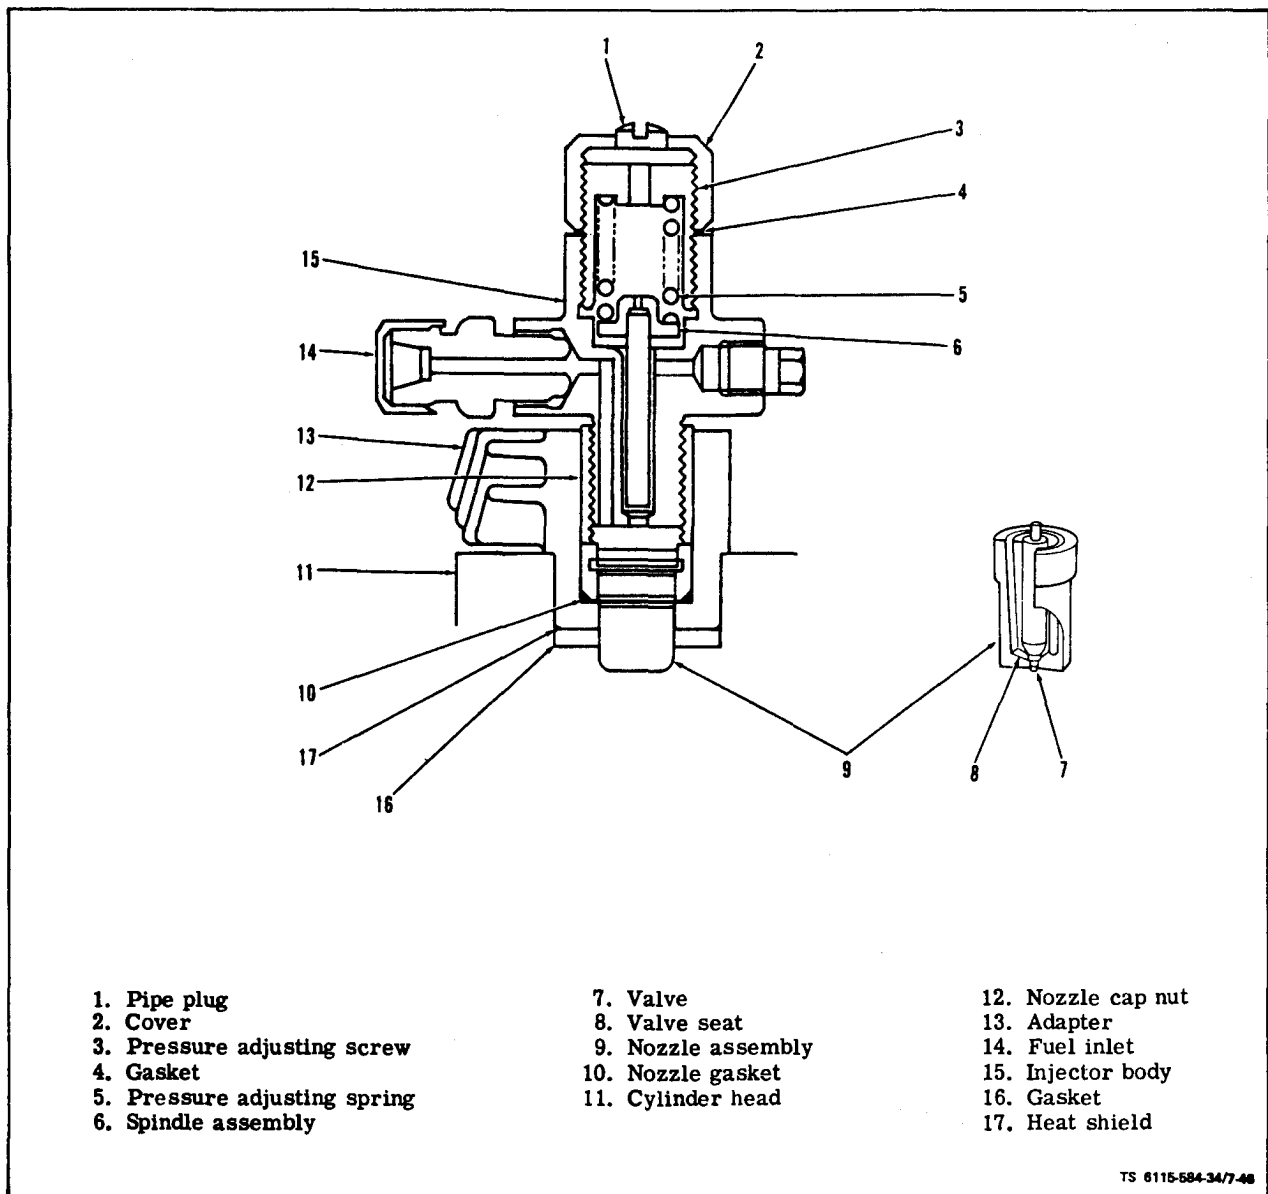

Figure 7-46. Fuel Injector
(1) Remove pipe plug (1, figure 7-46).
(2) Loosen (do not remove) cover (2).
(3) Install injector nozzle on a static fuel nozzle testing fixture.
(4) Insert a 5/32 inch hex socket key through hole in cover (2).
(5) Adjust opening pressure with hex key to correct pressure (1750 psi for a used injector, 1950 psi for a new injector).
(6) Tighten cover (2), and recheck opening pressure.
(1) Secure injector in a holding fixture and remove nozzle cap nut (12, figure 7-46) and nozzle (9).
(1) Rinse valve (7, figure 7-46) and nozzle (9) thoroughly in clean fuel oil before assembly. Valve must be free in the nozzle. Lift valve (7) about one-third out of nozzle and release; valve should slide back to seat without aid when assembly is held at 45 degree angle. If necessary, work valve into nozzle body. Using dry compressed air, blow out fuel inlet (14).
(2) Remove all pressure on nozzle spring by loosening adjusting screw (3).